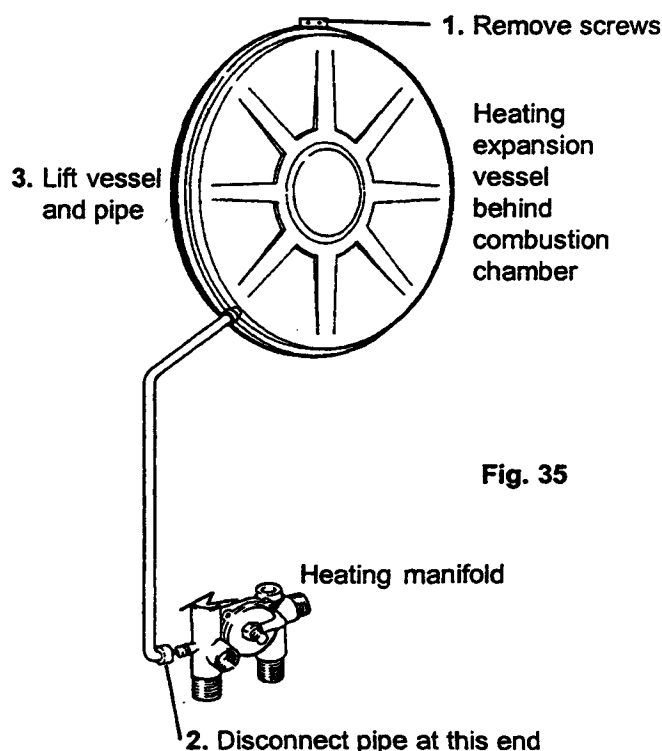

Fig. 35
- 8.16.9 Remove 2 screws securing vessel at top. Disconnect expansion pipe at heating manifold, lift vessel & pipe out of appliance. (fig. 35)
NOTE: Fig. 35 shows the expansion vessel from the 10SE & 14SE, the expansion vessel in the 20SE is square in shape and has two securing screws (top left and top right).